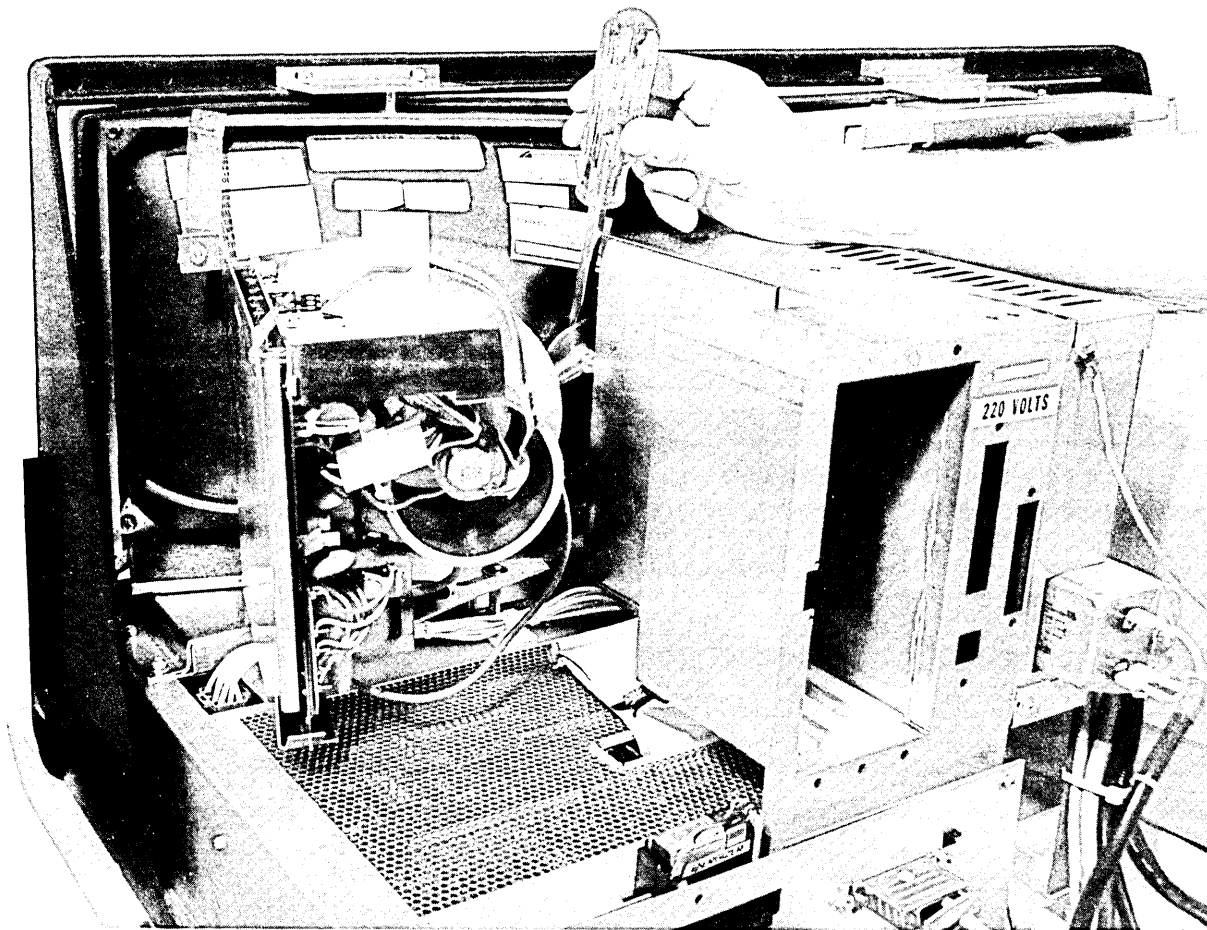

Figure 5-18. Grounding the H-V Cap for Safety
3. See figure 5-18. Using a screwdriver with an insulated handle, insert the blade under the H-V Cap from the CRT bulb and touch the screwdriver shaft to chassis ground. This procedure is redundant to the bleeder resistance in the monitor designed to prevent any high voltage being present when the power is disconnected.